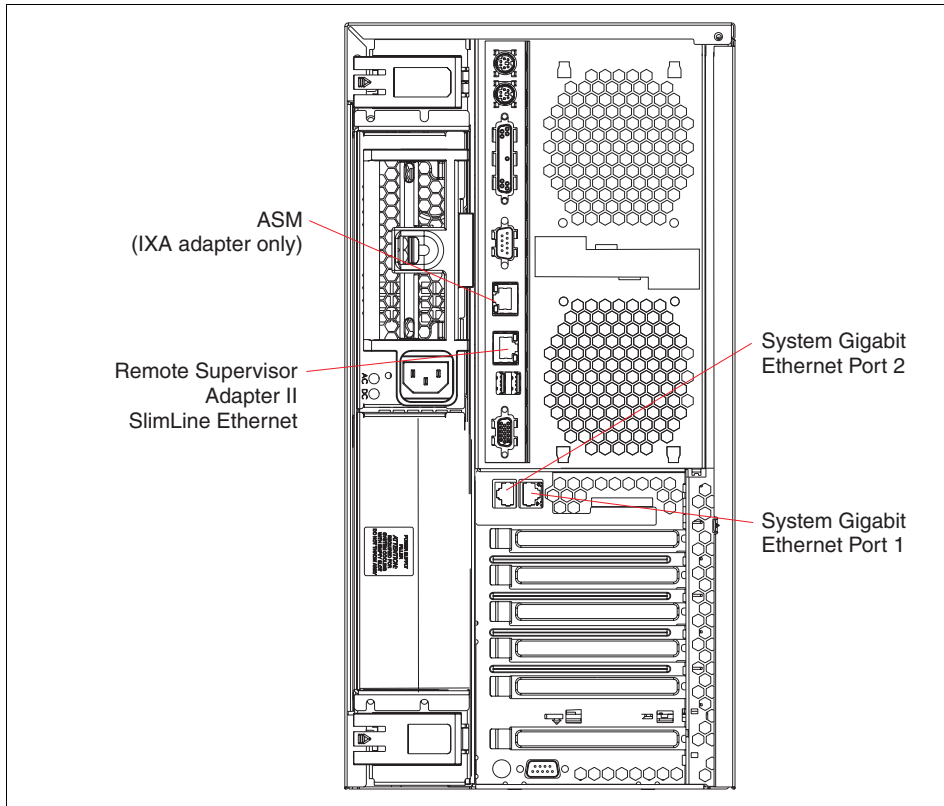

Figure 2-11 Rear ports of the xSeries 236
- ▶ x236: Figure 2-11 on page 21